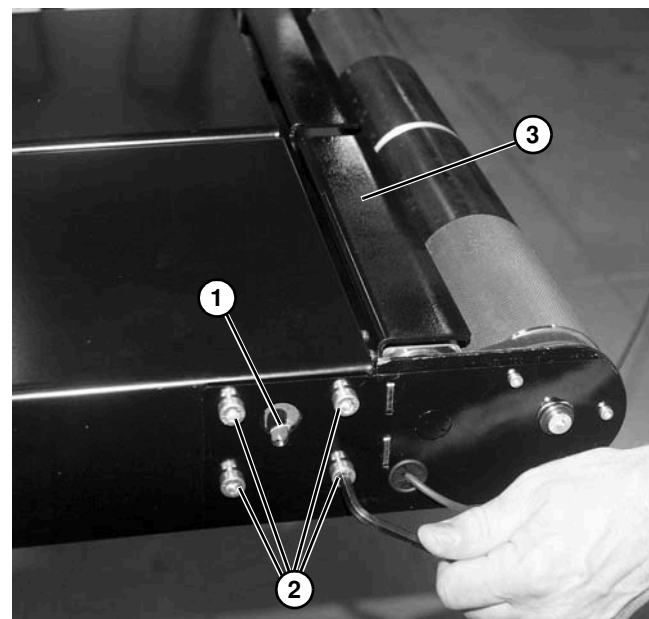

Figure 5
2. On tension end of the conveyor, identified by the pinion access slot (**Figure 5, item 1**), loosen the four tail clamp screws (**Figure 5, item 2**) on both sides of the conveyor, and push head plate assembly (**Figure 5, item 3**) inward.